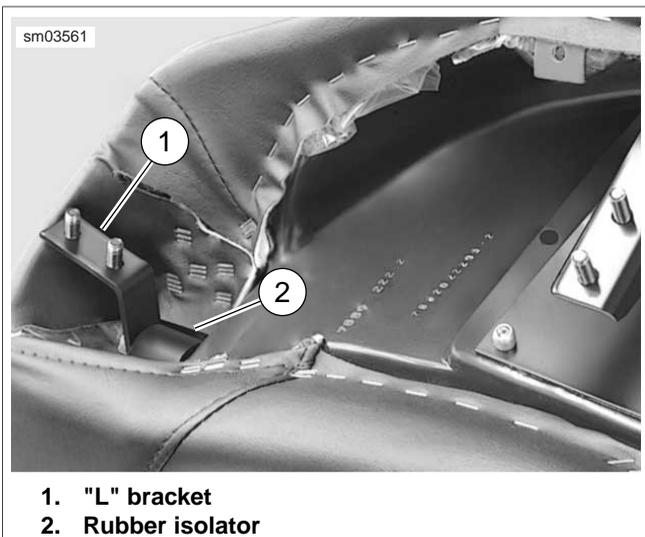

Figure 2-131. Outside Isolator
3. **Outside isolator:** Remove flange nut with lockwasher to release "L" bracket from rubber isolator stud. Rotate rubber isolator to remove other stud from threaded hole in backrest. See Figure 2-131.
2. **Outside isolator:** Install stud of **new** rubber isolator into threaded hole in backrest until snug. Install "L" bracket, lockwasher and flange nut on other stud. Finger tighten flange nut only. See Figure 2-131.